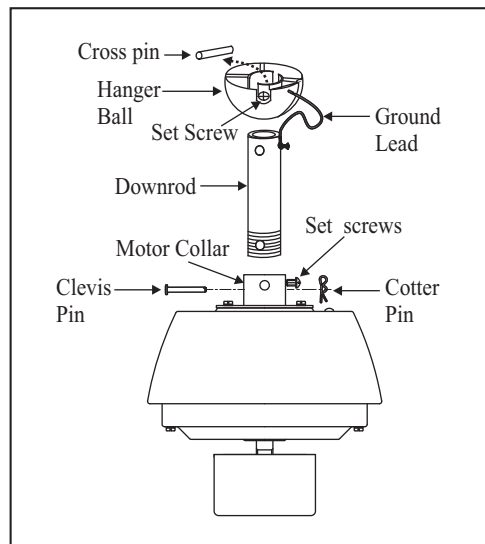

Figure 7
3. Remove the cotter pin, clevis pin and set screws from the top of the motor assembly. (Figure 7)
4. Take out the setscrew located in the hanger ball, lower the hanger ball and remove the cross pin. Remove the hanger ball from the hanger ball/downrod assembly. (Figure 7)
5. Remove the ground lead from the downrod assembly. (Figure 7)